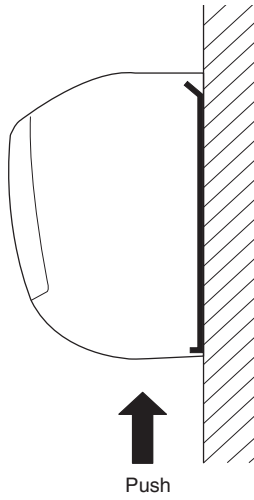

Fig. 3-103
- (3) Press the 2 Δ marks on the lower part of the indoor unit and unlatch the tabs. Then lift the indoor unit and unmount. (Fig. 3-103)